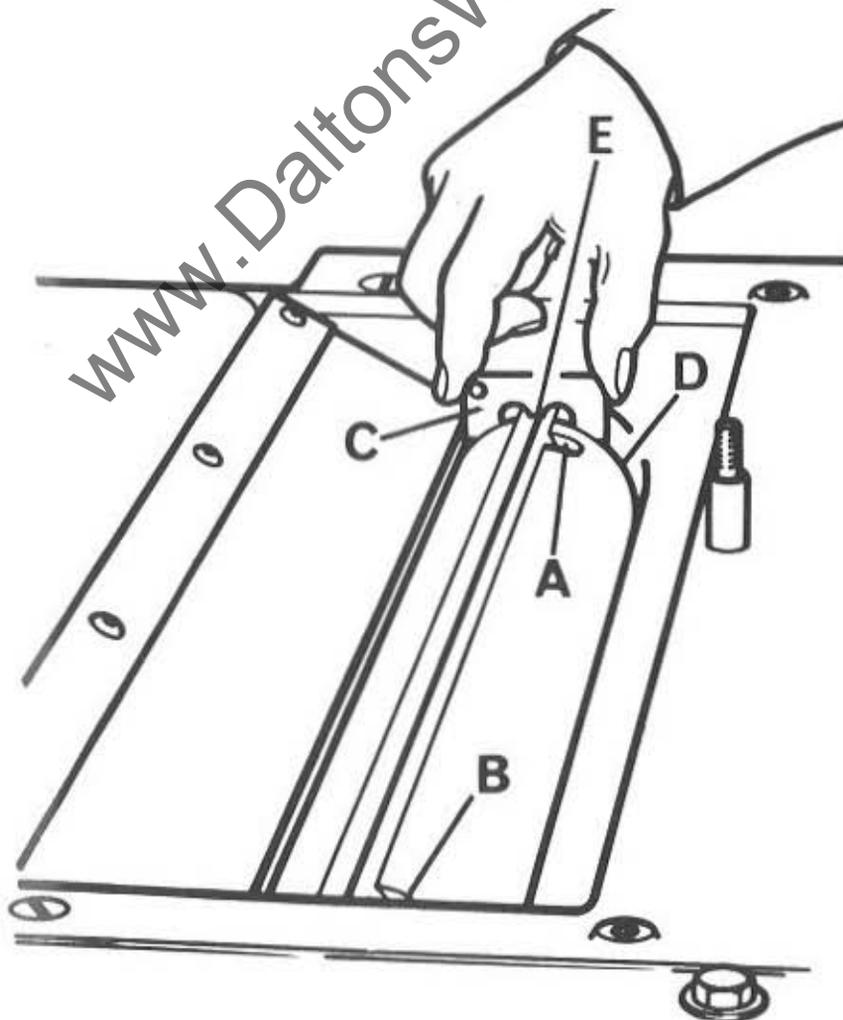

FIG. 13
2. Rotate the cutterblock to position shown in FIG. 13.
4. Decrease the cutter projection to minimum by turning 2 - socket head jacking screws "A" and "B" in FIG. 13.